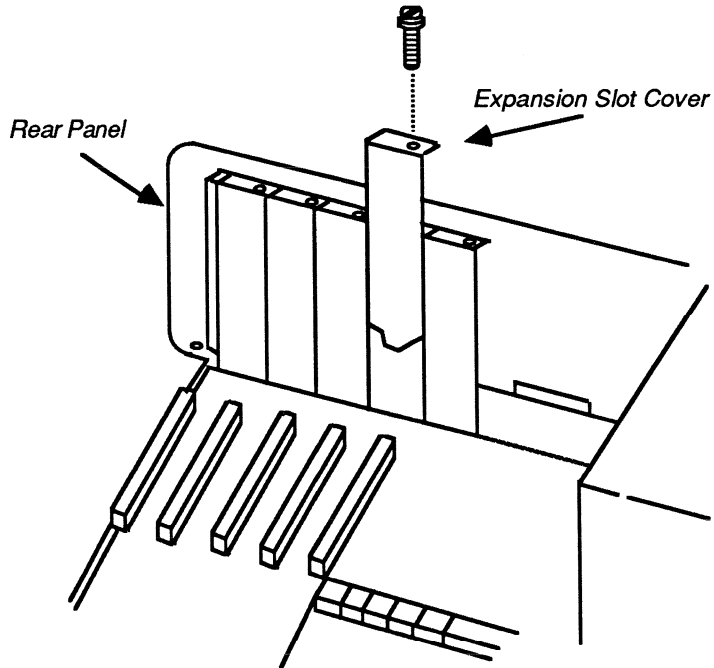

Figure 1-5. Removing the Expansion Slot Cover
4. The computer should contain a number of expansion slots. Select any convenient empty slot for the Logic Programmer card. If the expansion slot is covered, remove the screw that holds the expansion slot cover. Remove the cover. Refer to Figure 1-5.